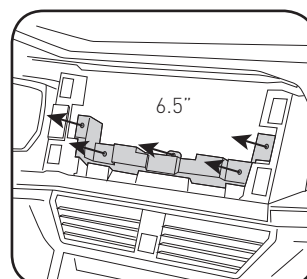

Fig. 1.8
8. **(6.5 inch radio)** Remove five (5) T20 Torx screws securing the sub dash bracket in place and remove. (Fig. 1.8)